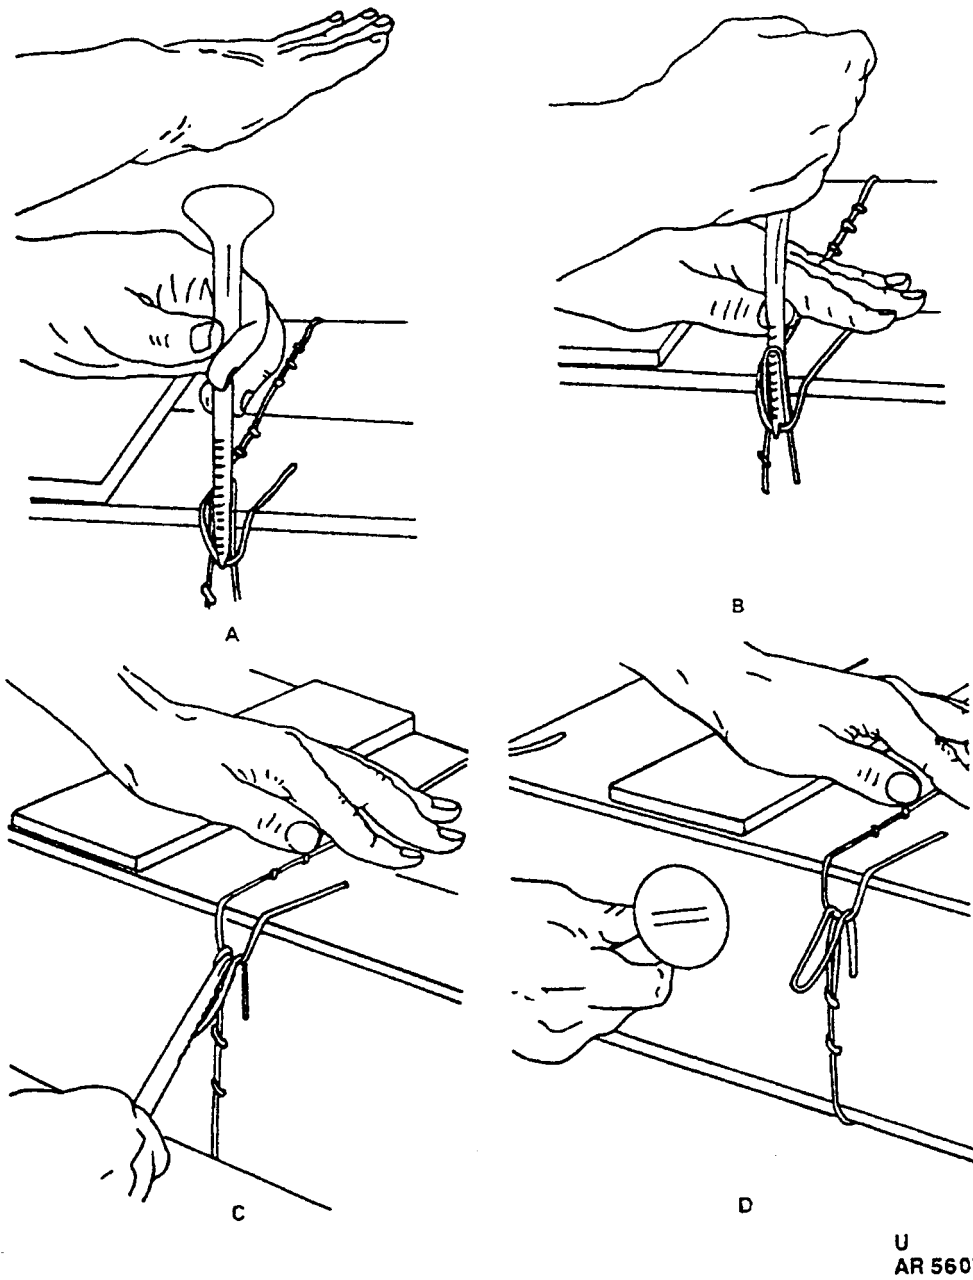

Figure 3-24. Closing Wirebound Box.
- f. Bend wire loops flat against box using a sallee closer (fig. 3-24).